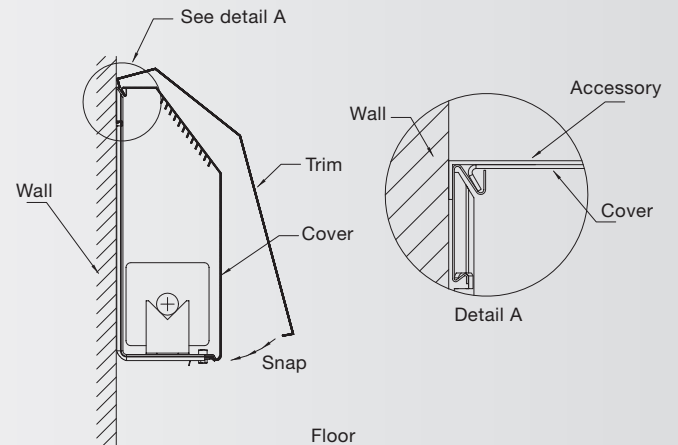

Figure W-8
- the top and around the cover at the bottom. (Figure W-8)